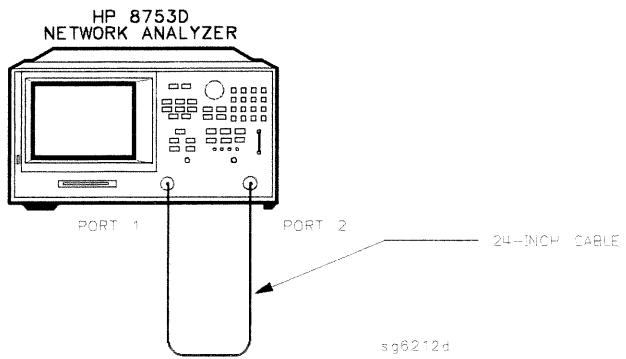

Figure 2-21. Setup for Checking the R Sampler (A4)
4. Connect the equipment as shown in Figure 2-21.